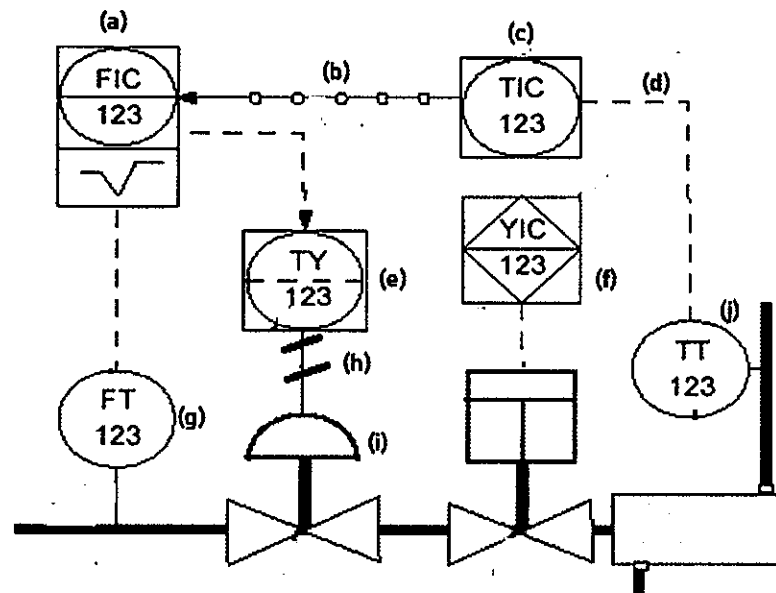

Figure A4(c) / Rajah A4(c)
- CLO1 (c) Based on the Figure A4(c), attain the equipment and all line name for symbols (a) to (j) in P & IDs below.